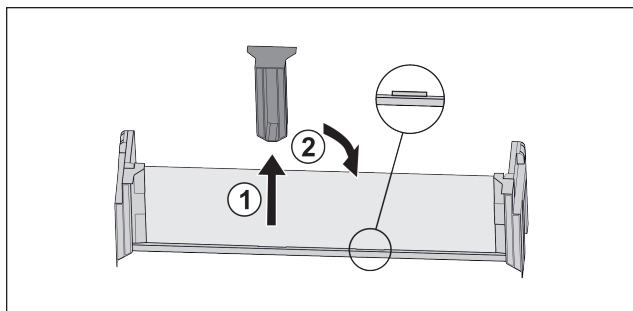

Fig. 85
- Pull off the middle holder Fig. 85 (1).
- Insert the middle holder in the second position Fig. 85 (2).